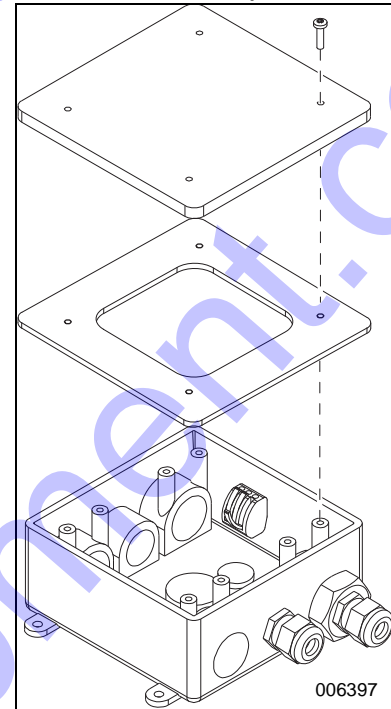

Figure 2. Junction Box Lid Removal
1. See Figure 2. Remove lid of junction box.